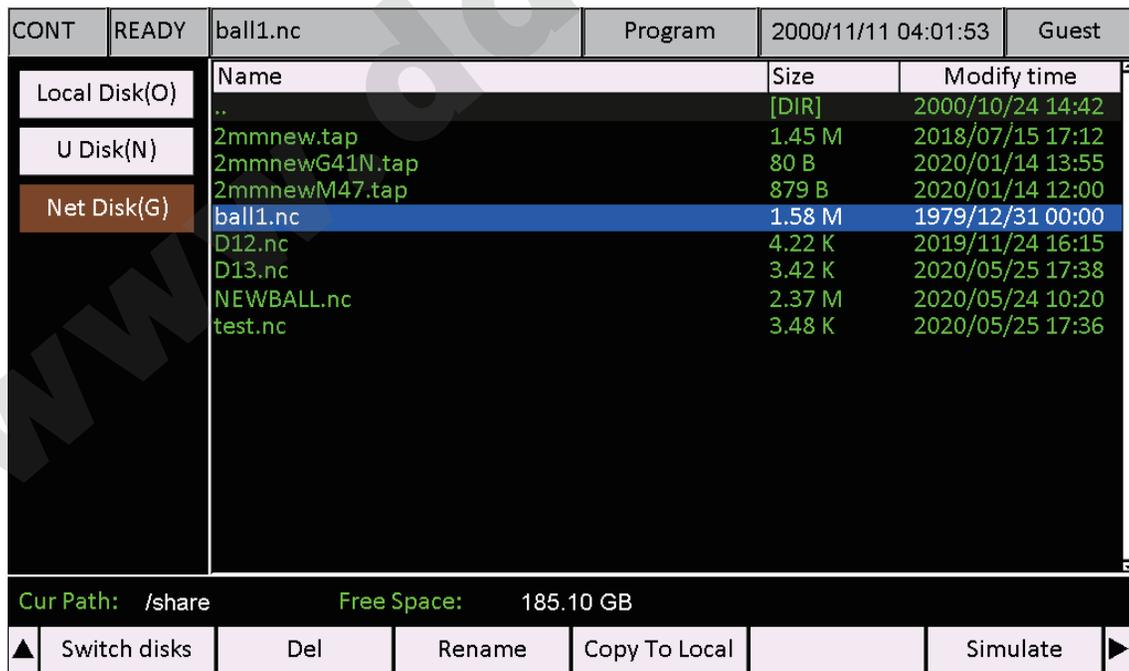

Figure 28 Net Disk shows the files from Computer
- 2) In the Page of Program,press the “Switich disks” button(F1), switch to “Net Disk”,and we can see the files as Figure 28;